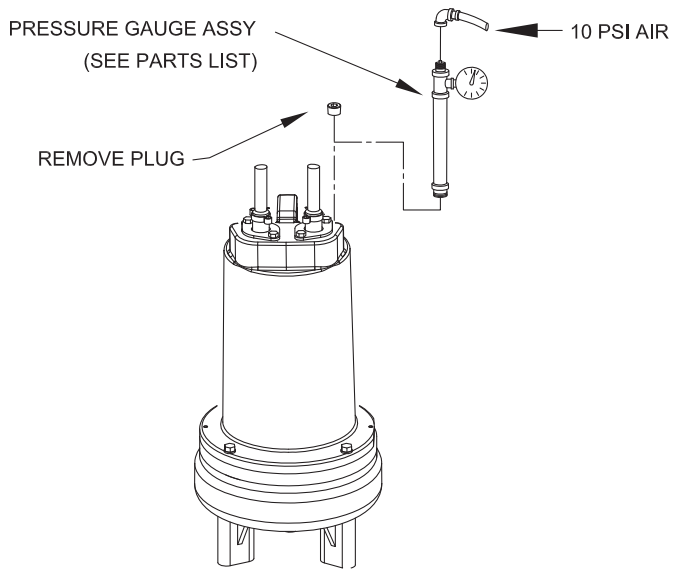

FIGURE 2
Pumps that have been disassembled, Motor Housing - If the pump has been disassembled, the oil should be drained before a pressure test, as described in section F-1.1. Remove pipe plug (39) from motor housing (6). Apply pipe sealant to pressure gauge assembly and tighten into hole (See Figure 2). Pressurize motor housing to 10 P.S.I. Use soap solution around the sealed areas and inspect joints for "air bubbles". If, after five minutes, the pressure is still holding constant,
The pressure test may be done with the oil at its normal level. Remove pipe plug (39) from motor housing (6). Apply pipe sealant to pressure gauge assembly and tighten into hole (See Figure 2). Pressurize motor housing to 10 P.S.I. Use soap solution around the sealed areas above the oil level and inspect joints for "air bubbles". For sealed areas below the oil level, leaks will seep oil. If, after five minutes, the pressure is still holding constant, and no "bubbles"/oil seepage is observed, slowly bleed the pressure and remove the gauge assembly. If the pressure does not hold, then the leak must be located and repaired.